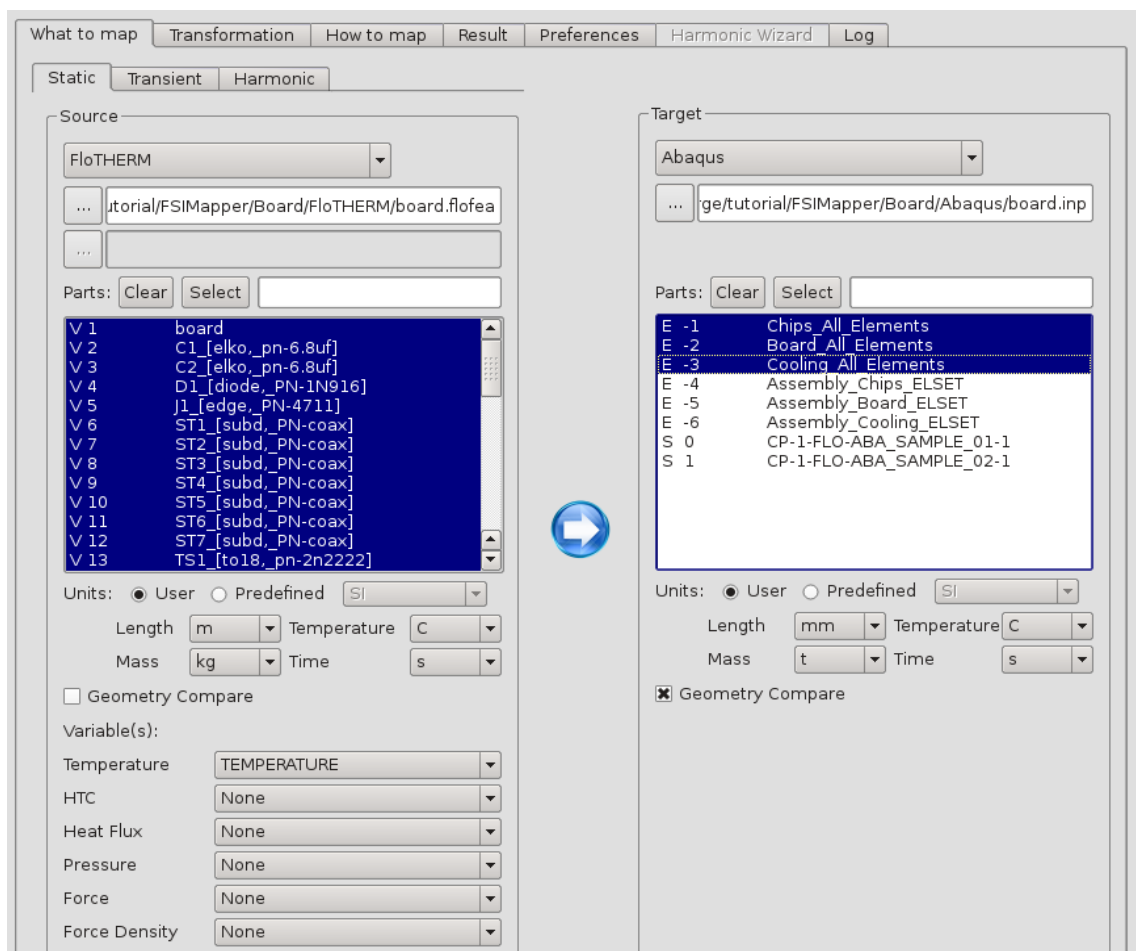

Figure 49: The “What to map” panel after step 7 for target code Abaqus
- f) The “What to map” panel of the mapping process now should look as shown in figure 49
f) The “What to map” panel of the mapping process now should look as shown in figure 49
- The “What to map” panel of the mapping process now should look as shown in figure 49